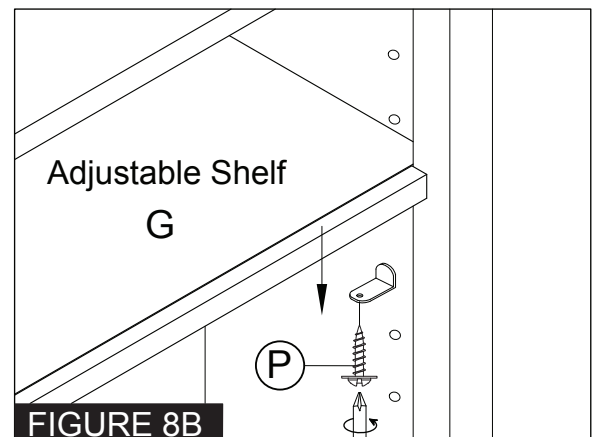

FIGURE 8B
Step 8: Adjust shelf height to your preference by inserting Shelf Pegs (N) into holes on Side Panels (FIGURE 8A). Rest Adjustable Shelves (G) on Shelf Pegs (N). Secure Adjustable Shelves (G) using 5/8" Wood Screw (P) (FIGURE 8B).